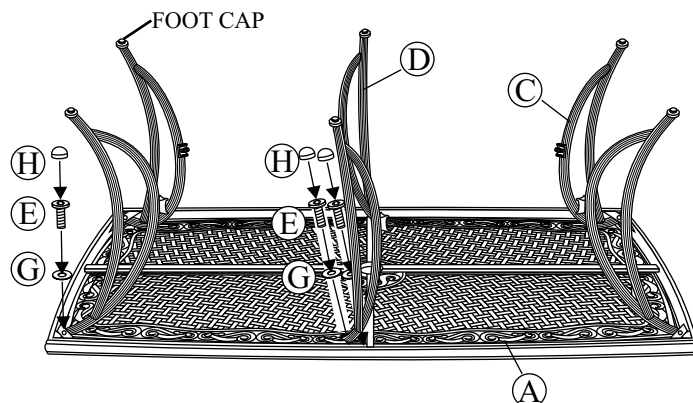

Fig.1
- 1 Place the table top upside down on a flat, non-abrasive surface. Attach a side leg to the table top by using a 1/4"x20 mm bolt and a washer as shown in the Fig.1. Place the leg beneath the table rim corner bracket. Guide the bolt through the hole in the table rim corner bracket and into the pre-drilled hole in the side leg. Hand tighten only. **Do not tighten completely.** Some adjustments may be necessary to ensure proper alignment of the table legs. Repeat for the other three side legs. Attach the middle leg using the 1/4"x20 mm bolts and washers as shown in the Fig.1. Hand tighten only. **Do not tighten completely.** Repeat for the other middle leg.